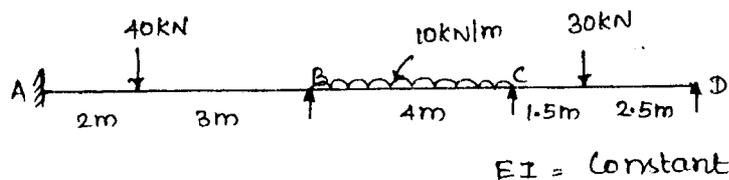

Fig. 7
4. (a) Analyse the continuous beam loaded as shown in Fig. 7 by the method of moment distribution. Sketch the bending moment and shear force diagrams.